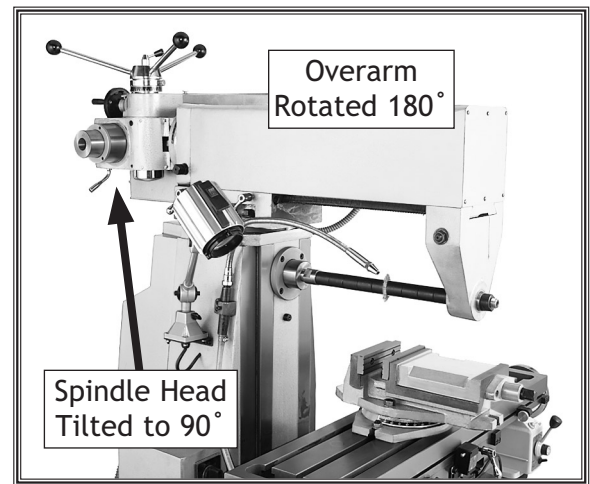

Figure 16. M1009 converted for horizontal spindle use.
7. Insert a horizontal arbor into the spindle support and swivel the overarm until the horizontal arbor will fit into the horizontal spindle, as shown in **Figure 16**.